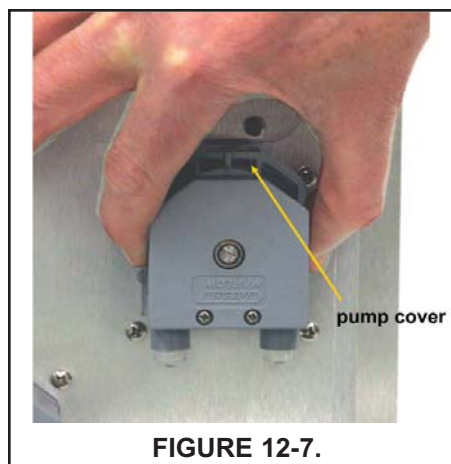

FIGURE 12-7.
3. Using your thumb and forefinger gently pinch the sides of the pump cover. Slide the cover upwards to remove it. See Figure 12-7.